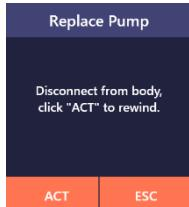

Figure A.2.19
(1) Disconnect from body. click "ACT" to rewind, then the user can continue to replace the reservoir, or click "ESC" to return to the "More" interface (as shown in Figure A.2.19).